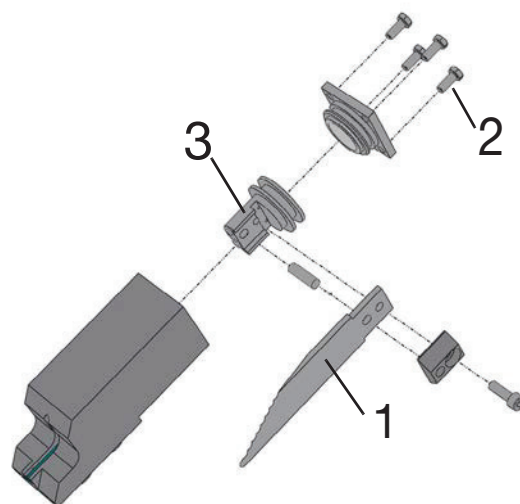

Fig. 7-30 1 Knife
- Remove the fixing screws (2, Fig. 7-30) on the cylinder cover.